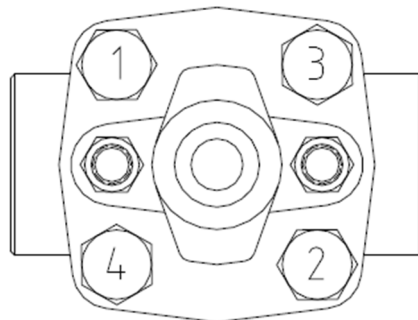

Fig. 16 Sequence of Tightening
- Tighten the first four nuts in the sequence shown Fig.16. This helps in correct location of the mating parts.